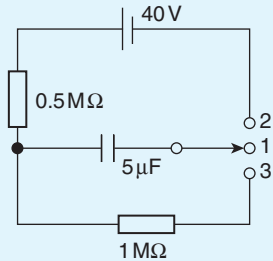

Figure 18.9
12. (a) In the circuit shown in Fig. 18.9, with the switch in position 1, the capacitor is uncharged. If the switch
S is moved to position B, the current value decreases, causing a decrease in the strength of the magnetic field. Flux linkages occur, generating a voltage v_L , equal to $L(di/dt)$. By Lenz's law, this voltage keeps current i flowing in the circuit, its value being limited by R . Thus $v_L = v_R$. The current decays exponentially to zero and since v_R is proportional to the current flowing, v_R decays exponentially to zero. Since $v_L = v_R$, v_L also decays exponentially to zero. The curves representing these transients are similar to those shown in Fig. 18.9.